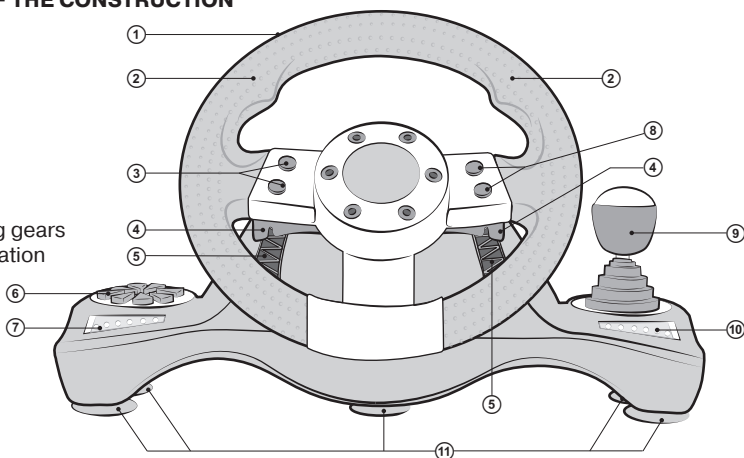

Fig. 1. Front view
• Game racing wheel is equipped with paddle shifters ④, that substitute acceleration and brake pedals: the left paddle shifter functions as a brake pedal, while the right paddle shifter functions as an acceleration pedal.
Note. *Game racing wheel is equipped with braking indication ① and accelerating indication ⑩ see. Fig. 1. With a smooth pressing the acceleration pedal indicator lights up green, picking up speed indicator will light orange, then red. Depending on the smoothness of dropping speed indicator lights green, orange and red colors.*